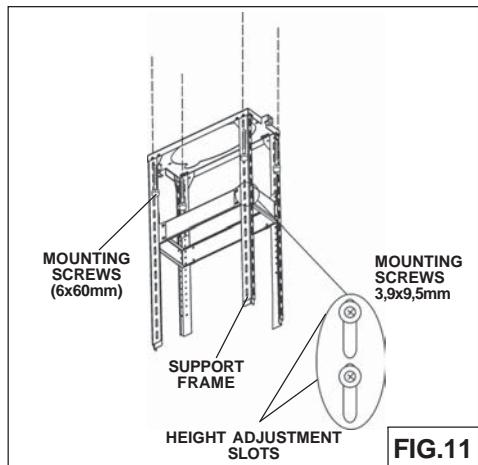

FIG.11
4. Adjust the overall height using the chart shown on page 10 of the support frame. Loosen and re-tighten the 4 screws in the **height adjustment slots** as necessary. Insert 12 screws (3.9x9.5mm) located in the Hardware Package (Fig.11) make sure this a 4" min. overlap between the upper and lower support legs.